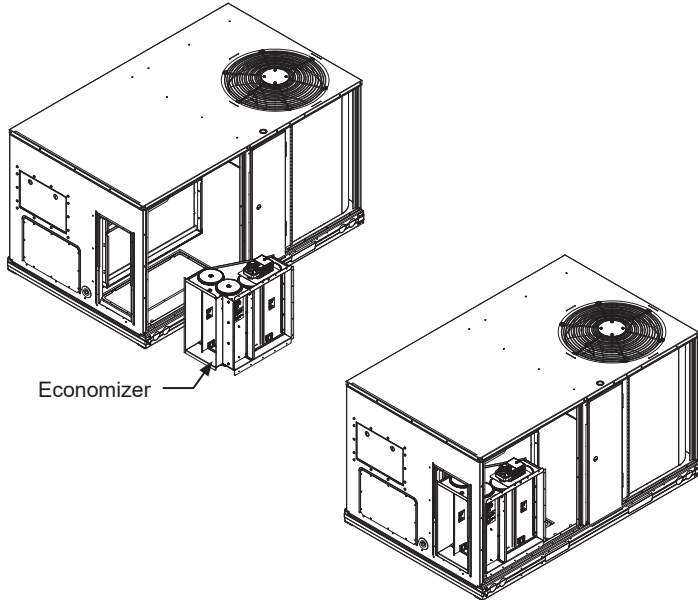

Figure 2 - Economizer Installed in R/A Section
Step 4: Place the economizer into R/A section of unit. See **Figure 2**. No fasteners are needed, economizer is sitting on R/A cover in unit.